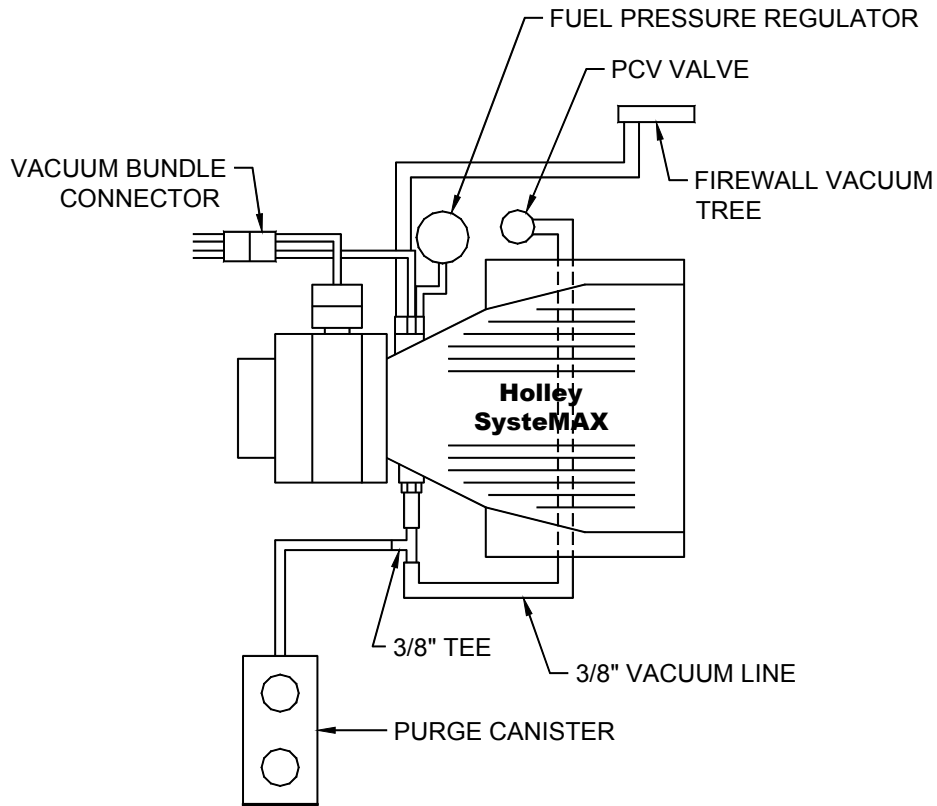

Figure 21
11. Using Figure 21 as a guide, connect the vacuum lines to the upper intake manifold. Some trimming or extension of the vacuum lines may be necessary. Connect the lines from the vacuum bundle connector to the EGR valve and the ports on the back of the manifold. Connect the fuel pressure regulator and large line from the firewall vacuum tree to the back of the manifold. Connect the PCV valve and purge canister to the front of the manifold using a 3/8" vacuum line and the supplied 3/8" Tee.